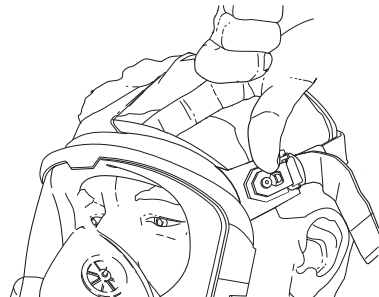

Fig. 26 Checking for gaps in face seal
- A separation of the seal from the face that can be felt with the fingers (Fig. 26).